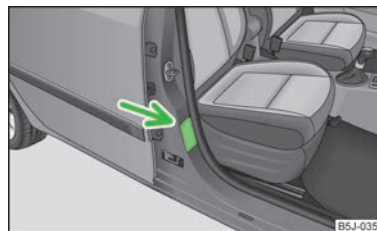

Fig. 104
- This is also clearly stated on the sticker which is located on the B column on the front passenger side » Fig. 104 or on the front passenger's sun visor.